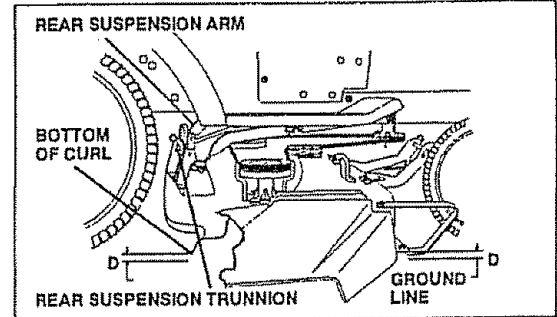

FIG. 20
**FRONT-TO-BACK ADJUSTMENT**(See Figs. 20 and 21) - To obtain the best cutting results, the mower housing should be adjusted so the rear is approximately 3/4 to 7/8" higher than the front when the mower is in its highest position.